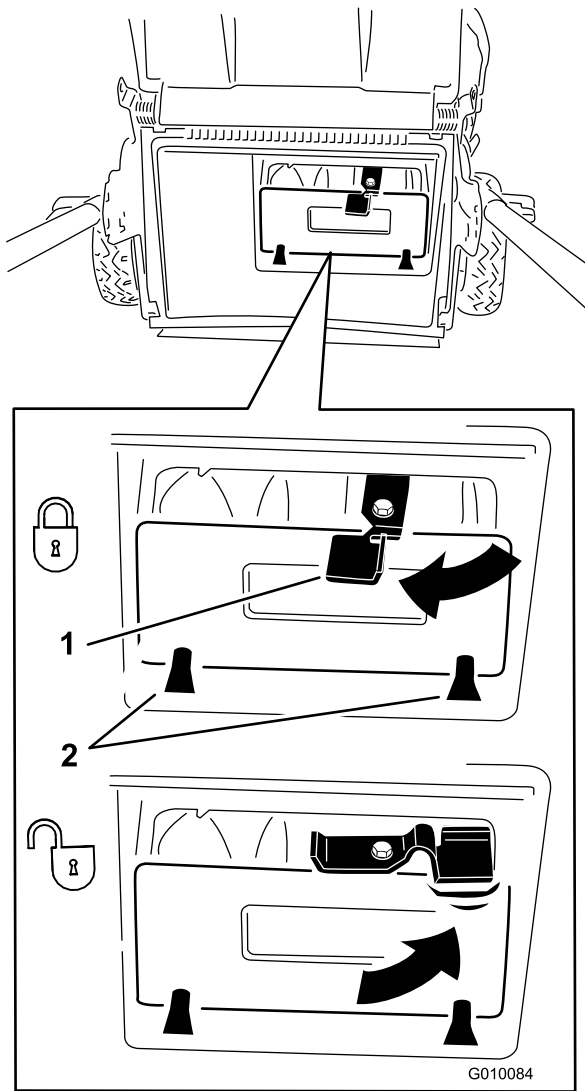

**Figure 23**
1. Route the starter rope around the lower rope guide (Figure 23).